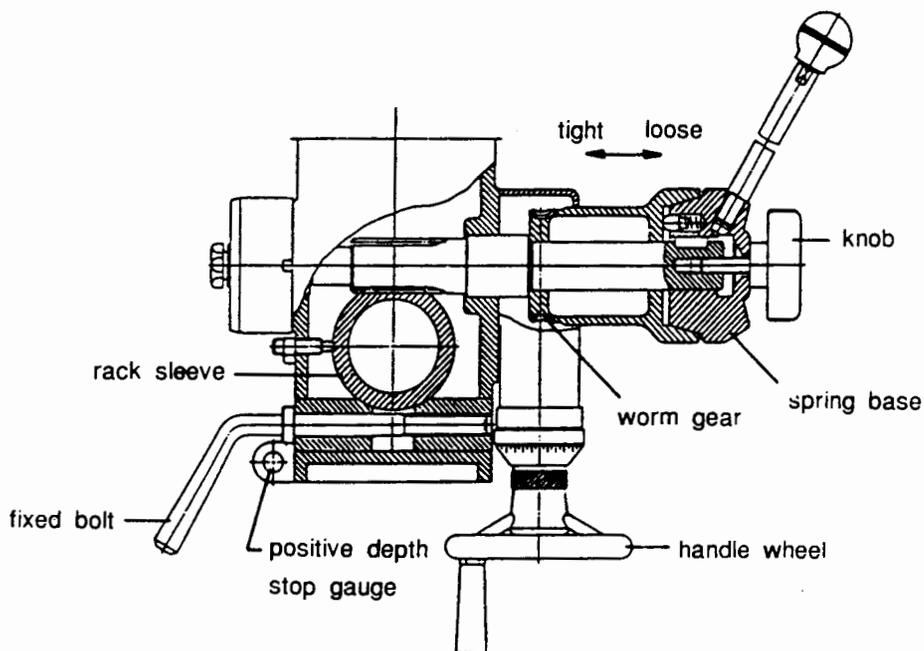

Fig. 2
(4) Preparing for Drilling (see fig. 2)
(5) Preparing for Milling (see fig. 2)